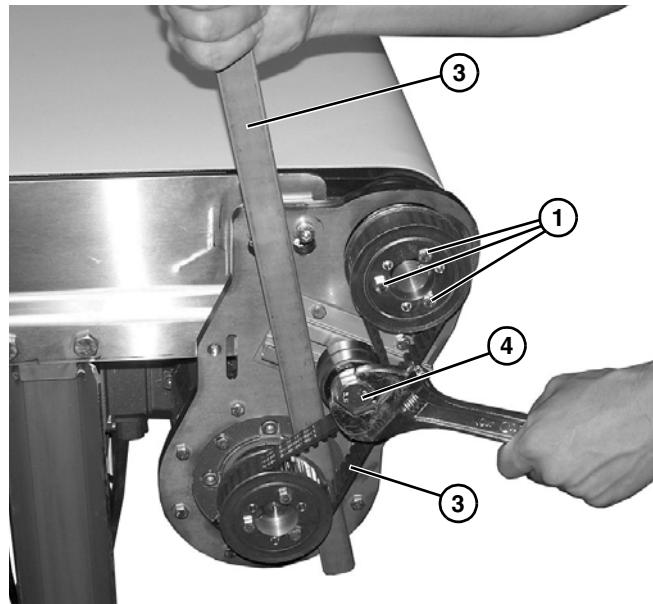

Figure 10
9. Tighten driven pulley taper-lock screws (**Figure 10, item 1**).
10. Tension timing belt (**Figure 10, item 2**) sufficiently to prevent belt skipping. A pry bar (**Figure 10, item 3**), may be used, as shown, to assist in belt tensioning.
11. Tighten tensioner screw (**Figure 10, item 4**) to secure position.